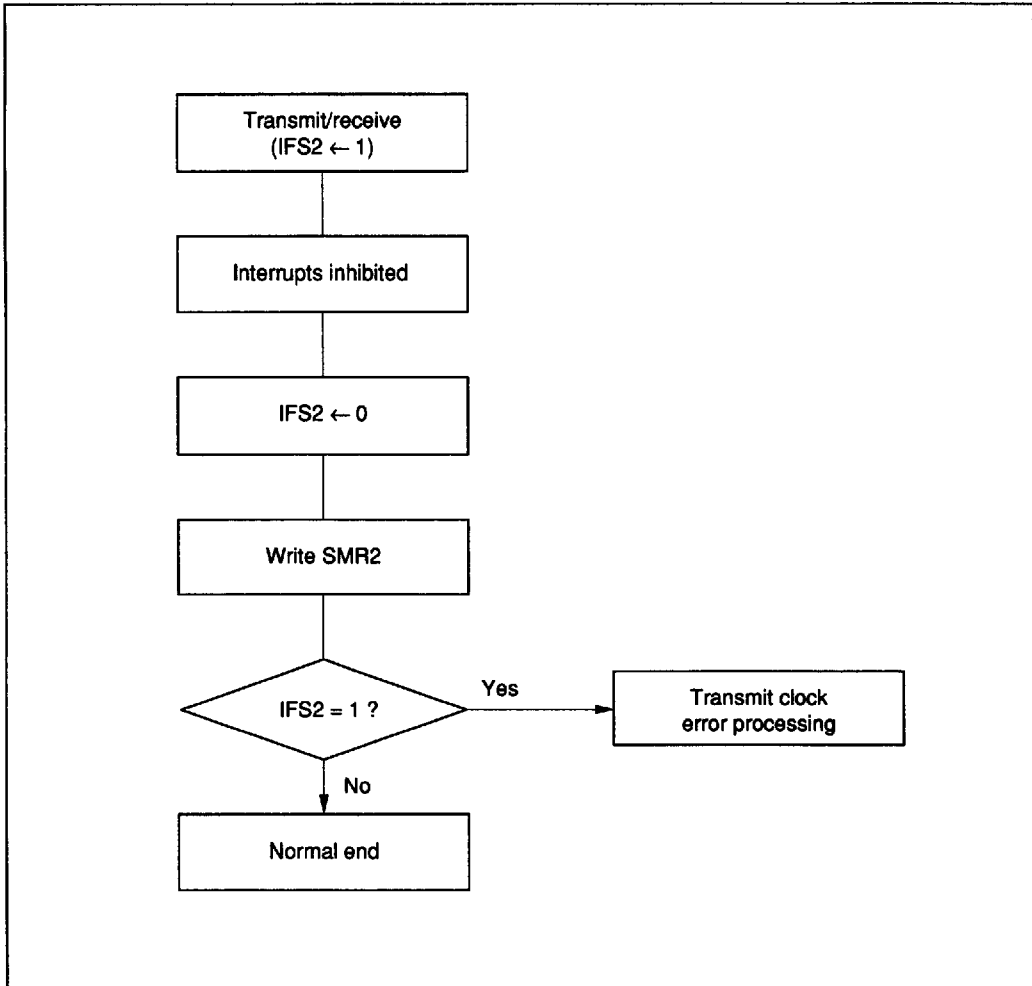

Figure 53 Transmit Clock Error Detection
**Transmit Clock Error Detection:** Serial interface 2 will malfunction if a spurious pulse caused by external noise conflicts with a normal transmit clock. Such errors can be detected as shown in figure 53.